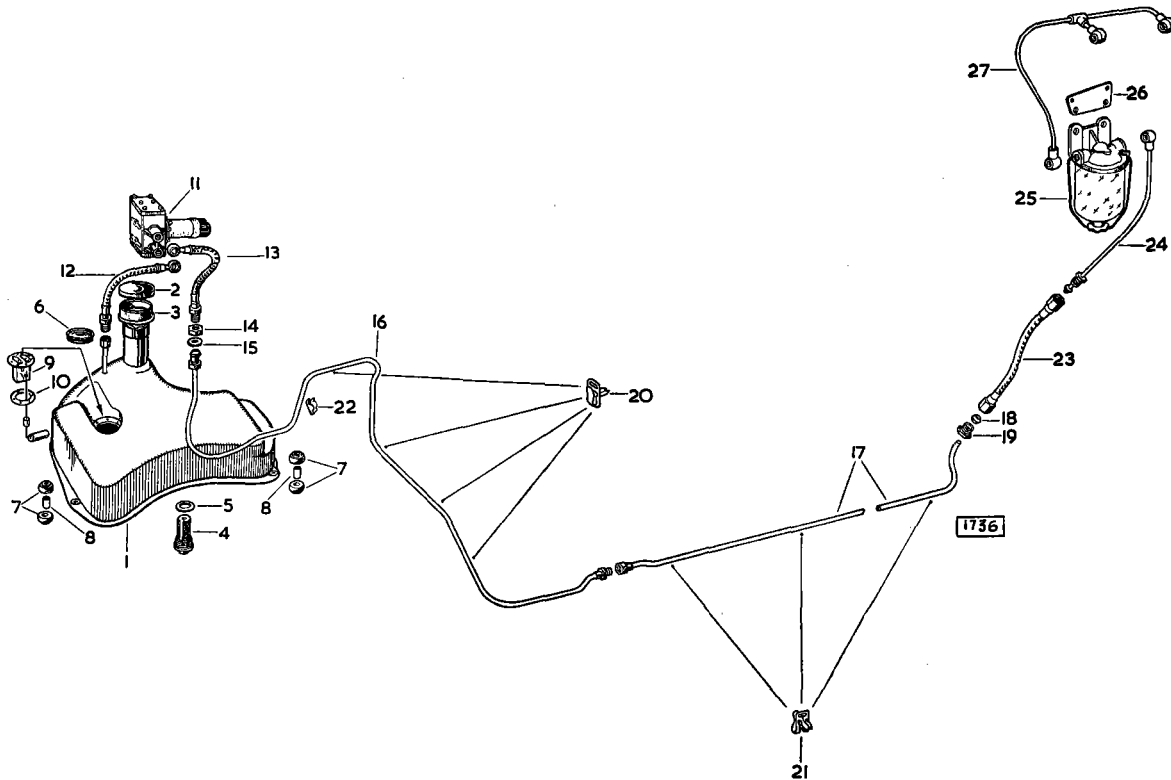

Fig. 27. The fuel system (2.4 litre model).
Remove both inlet and outlet pipes (12 and 13) (Fig. 27) from the side of the pump (11) by withdrawing